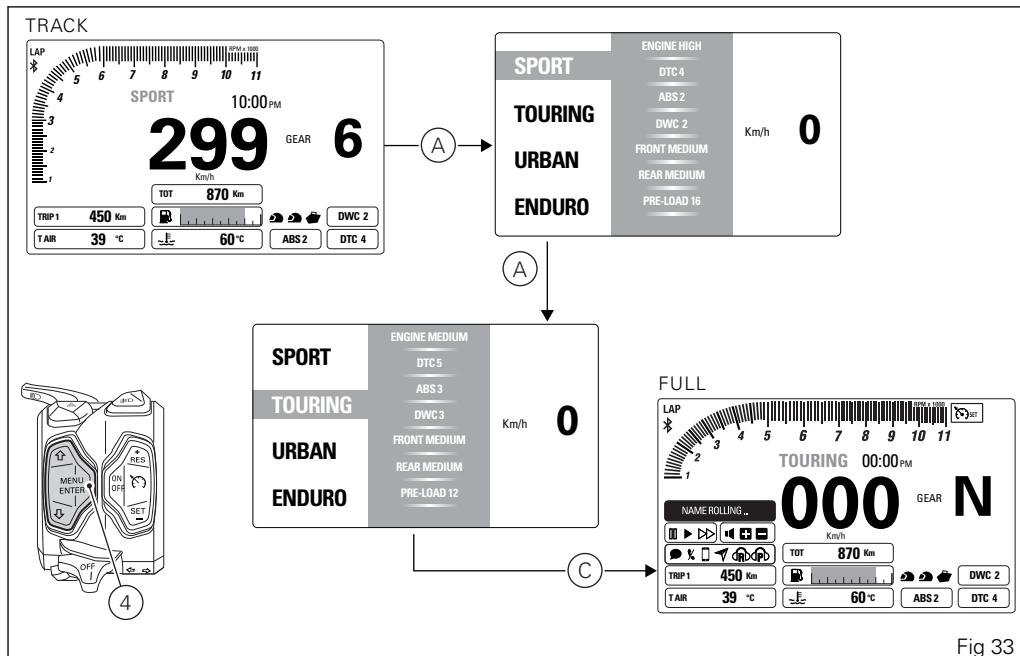

Fig 33
Once the desired riding mode (A, Fig 33) is highlighted, confirm the selection by holding down the CONFIRM MENU button (4) for 2 seconds: the new riding mode selection is stored and the standard screen (C, Fig 33) is displayed for the selected riding mode.